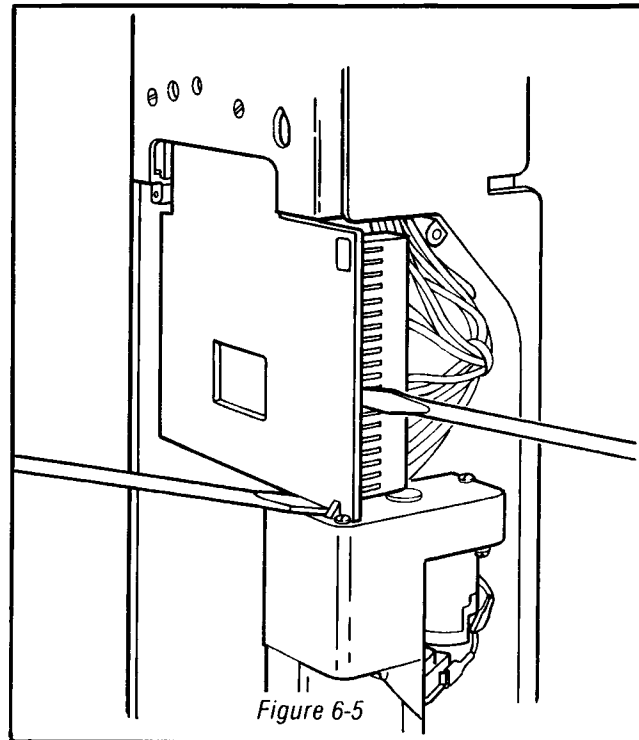

Figure 6-5
1. Removing the Logic Board from the Coin Changer (Figure 6-5)